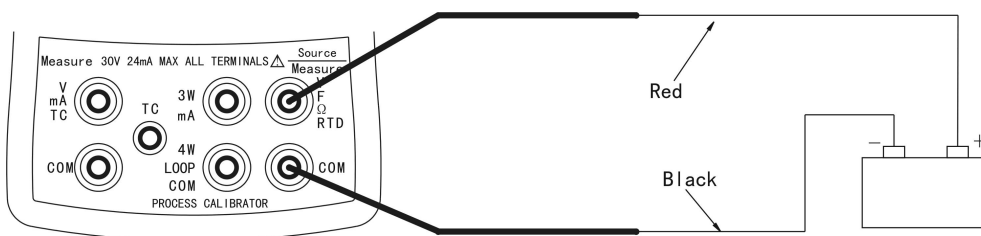

Figure5- 4 Measuring Voltage (Lower Display)
- (3) Connect the test leads as shown in Figure5- 5.